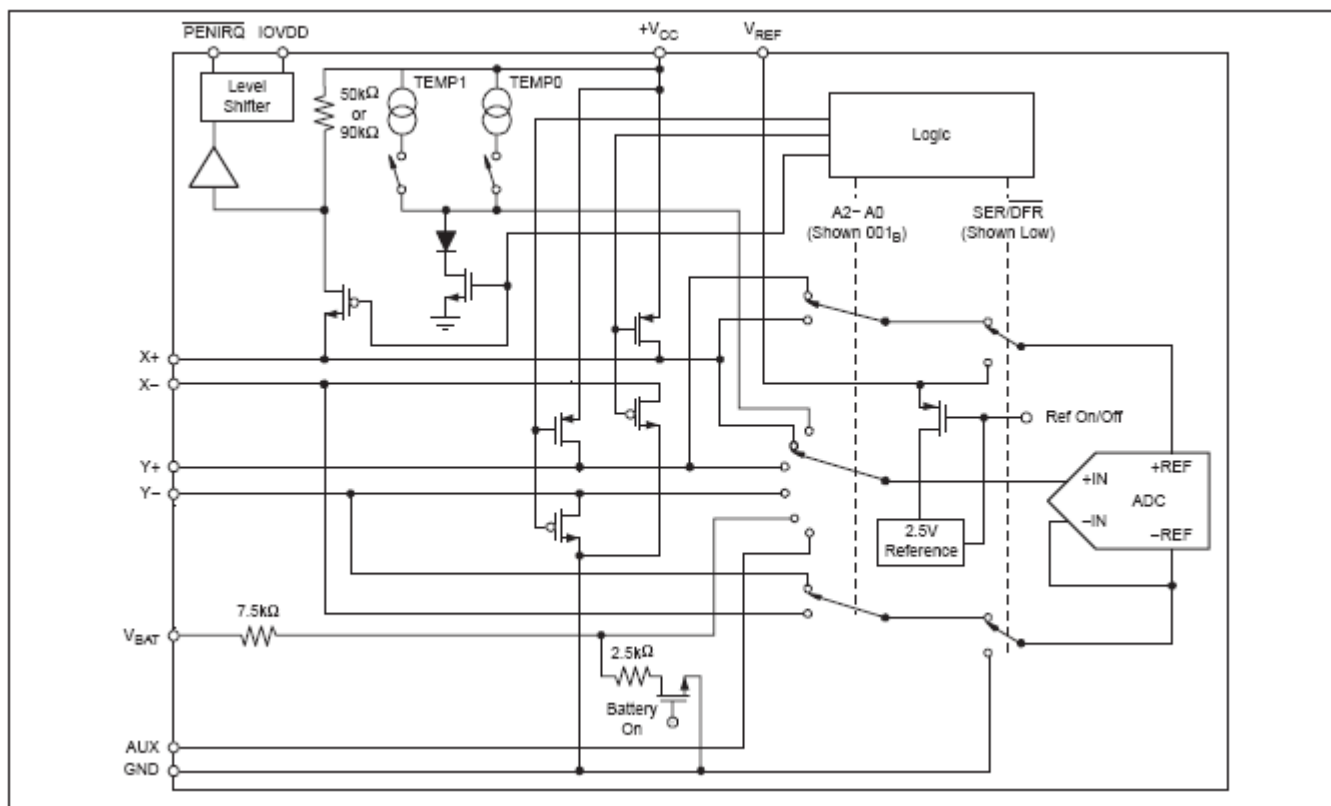

Figure 2. Simplified Diagram of Analog Input
Figure 2 shows a block diagram of the input multiplexer on the TSC2046S, the differential input of the ADC, and the differential reference of the converter. Table 1 and Table 2 show the relationship between the A2, A1, A0, and SER/DFR control bits and the configuration of the TSC2046S. The control bits are provided serially via the DIN pin—see the *Digital Interface* section of this data sheet for more details. When the converter enters the hold mode, the voltage difference between the +IN and -IN inputs (shown in Figure 2) is captured on the internal capacitor array. The input current into the analog inputs depends on the conversion rate of the device. During the sample period, the source must charge the internal sampling capacitor (typically 25pF). After the capacitor is fully charged, there is no further input current. The rate of charge transfer from the analog source to the converter is a function of conversion rate.
The voltage difference between +REF and -REF (see Figure 2) sets the analog input range. The TSC2046S operates with a reference in the range of 1V to +VCC. There are several critical items concerning the reference input and its wide voltage range. As the reference voltage is reduced, the analog voltage weight of each digital output code is also reduced. This is often referred to as the LSB (least significant bit) size and is equal to the reference voltage divided by 4096 in 12-bit mode. Any offset or gain error inherent in the ADC appears to increase, in terms of LSB size, as the reference voltage is reduced. For example, if the offset of a given converter is 2LSBs with a 2.5V reference, it is typically 5LSBs with a 1V reference. In each case, the actual offset of the device is the same, 1.22mV. With a lower reference voltage, more care must be taken to provide a clean layout including adequate bypassing, a clean (low-noise, low-ripple) power supply, a low-noise reference (if an external reference is used), and a low-noise input signal.
**Addressing**—The next three bits (A2, A1, and A0) select the active input channel(s) of the input multiplexer (see Table 1, Table 2, and Figure 2), touch screen drivers, and the reference inputs.
**SER/DFR**—The SER/DFR bit controls the reference mode, either single-ended (high) or differential (low). The differential mode is also referred to as the ratiometric conversion mode and is preferred for X-Position, Y-Position, and Pressure-Touch measurements for optimum performance. The reference is derived from the voltage at the switch drivers, which is almost the same as the voltage to the touch screen. In this case, a reference voltage is not needed as the reference voltage to the ADC is the voltage across the touch screen. In the single-ended mode, the converter reference voltage is always the difference between the VREF and GND pins (see Table 1 and Table 2, and Figure 2 through Figure 5, for further information).